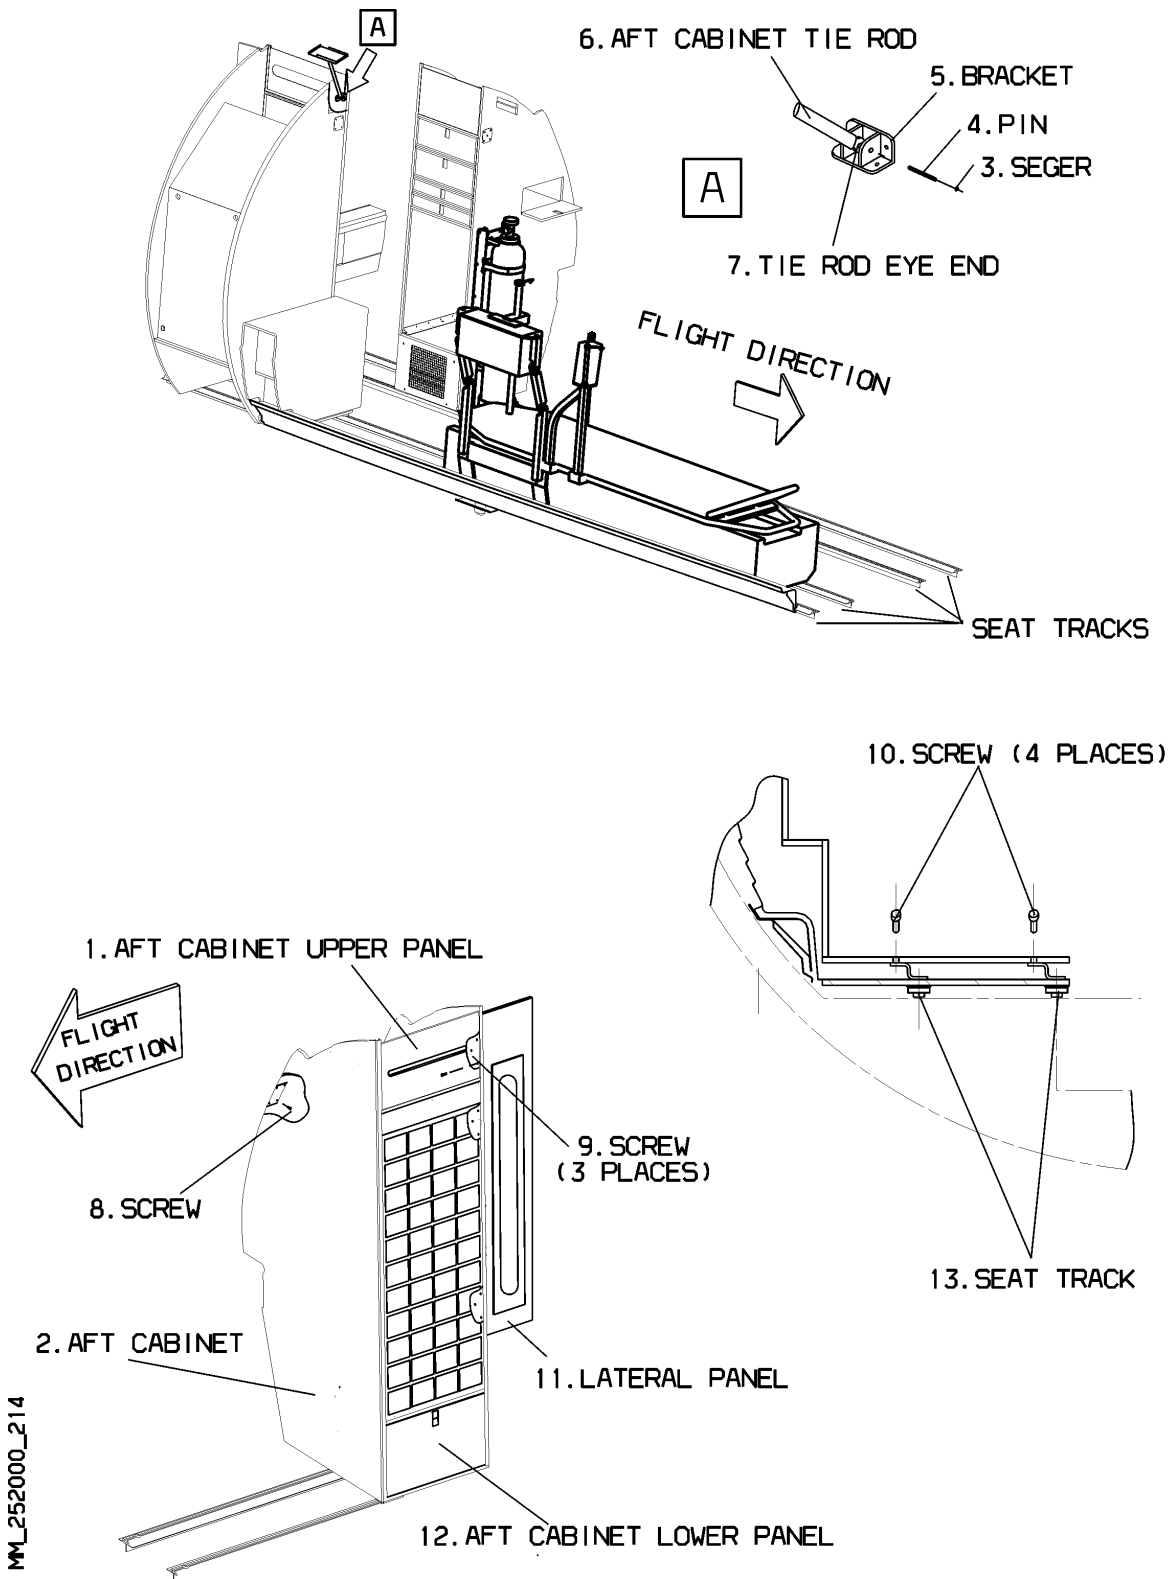

Fig. 207 - AFT Cabinet - Removal / Installation
10. AFT Cabinet - Removal (Ref. to Fig. 207)
- (1) Remove the electrical power (Refer. to 24-00-00).
- (2) Remove the Small RH Rear Cabinet as described in this section.
- (3) Remove the four screw that fasten the AFT cabinet upper panel (1) to the AFT cabinet (2).
- (4) Remove the seager (3), then slide out the pin (4) from the tie rod bracket (5).
- (5) Remove the screws (9) located on the AFT Cabinet internal right side that secure the lateral panel (11) to the AFT cabinet wall.
- (6) Open the lateral panel (11) and disconnect all the electrical connectors.
- (7) Remove the AFT cabinet lower panel (12).
- (8) Remove the four screws (10) that secure the AFT cabinet to the seat tracks (13)
- (9) Remove the screw (8) that fasten the AFT cabinet rear side to the airplane structure
- (10) Remove the AFT cabinet (2) with the lateral panel (11).
11. AFT Cabinet - Installation (Ref. to Fig. 207)